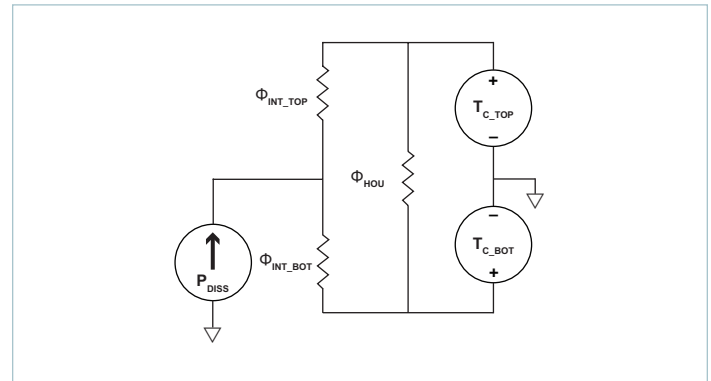
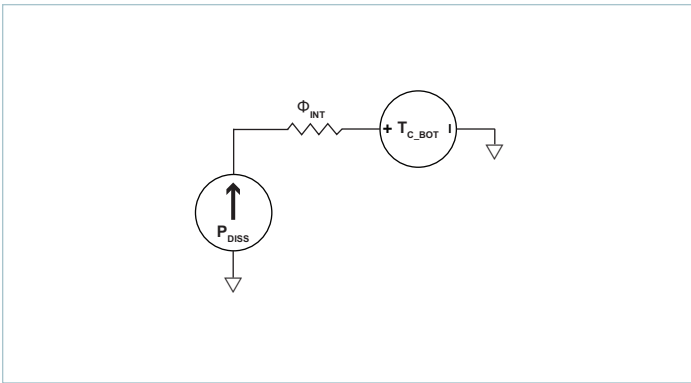

Figure 22 — Double-sided cooling VIA thermal model
Figure 23 — Single-sided cooling VIA thermal model
The VIA package provides effective conduction cooling from either of the two module surfaces. Heat may be removed from the top surface, the bottom surface or both. The extent to which these two surfaces are cooled is a key component for determining the maximum power that can be processed by a VIA, as can be seen from the specified thermal operating area in Figure 1. Since the VIA has a maximum internal temperature rating, it is necessary to estimate this internal temperature based on a system-level thermal solution. For this purpose, it is helpful to simplify the thermal solution into a roughly equivalent circuit where power dissipation is modeled as a current source, isothermal surface temperatures are represented as voltage sources and the thermal resistances are represented as resistors. Figure 22 shows the “thermal circuit” for the VIA module.
- Single side cooling: the model of Figure 22 can be simplified by calculating the parallel resistor network and using one simple thermal resistance number and the internal power dissipation curves; an example for bottom side cooling only is shown in Figure 23.